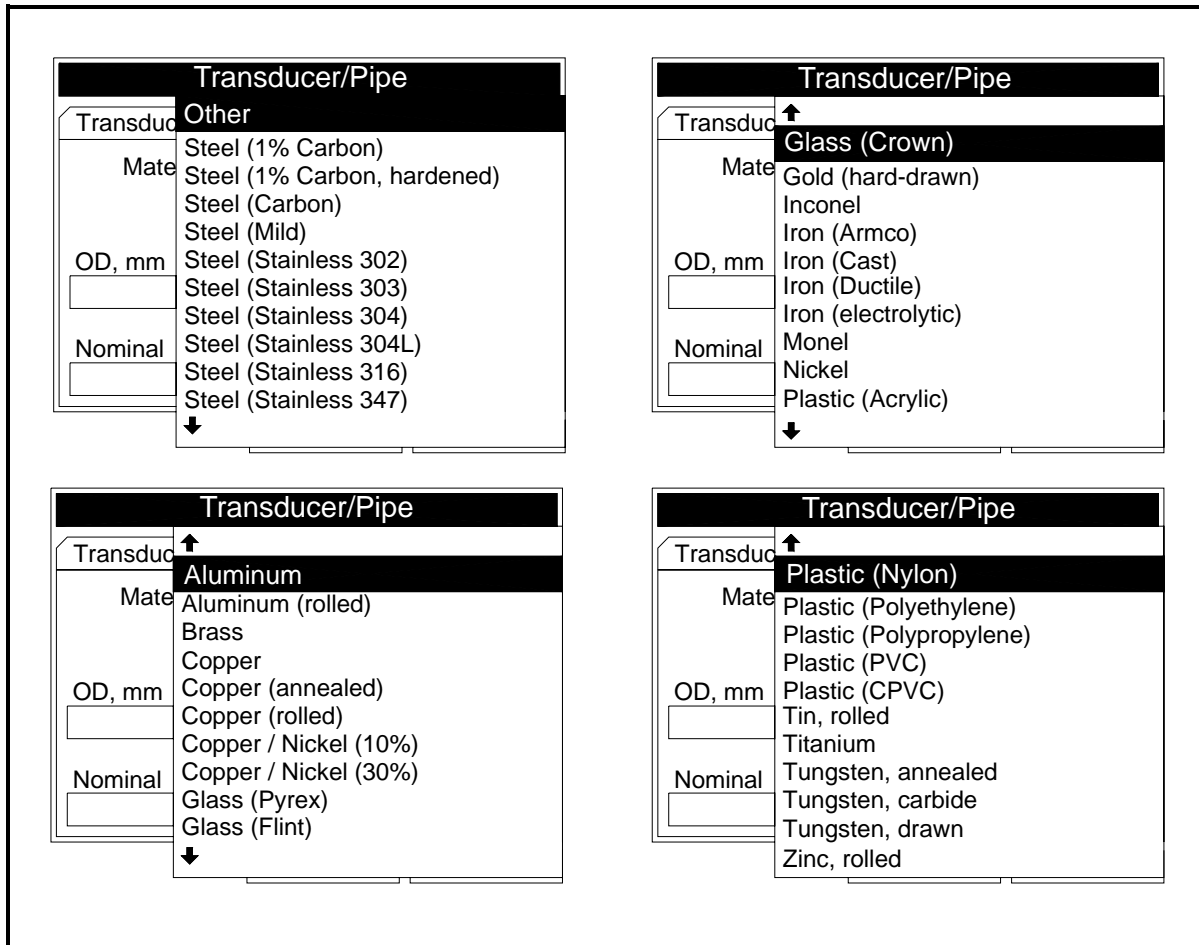

Figure 1-10: Pipe Material Options
- b. A drop-down list of materials opens as shown in Figure 1-10 below. Press the [▼] or [▲] keys to scroll to the appropriate material, or scroll to “Other” for a material not on the list. Press the [▶] key to scroll down by a page, or the [◀] key to scroll up by a page.